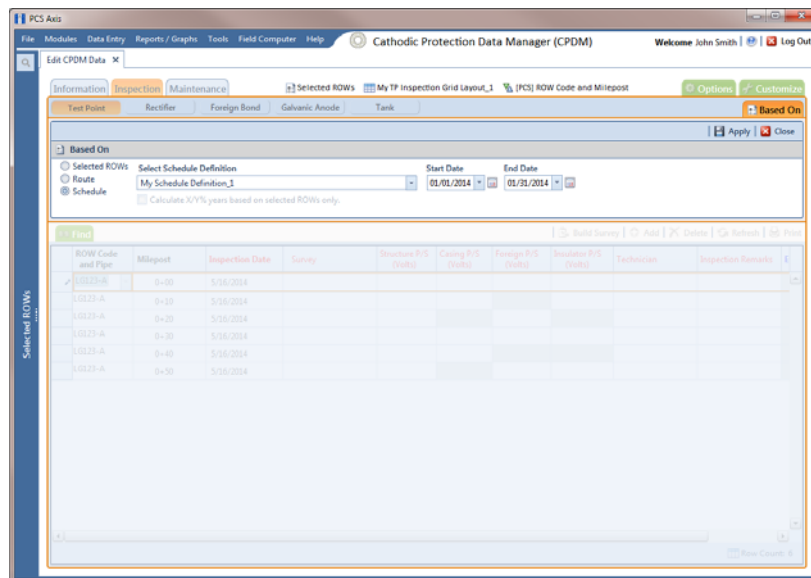

Figure 7-37. Based On Schedule
- 5 Click the **Based On** tab **Based On** and then select **Schedule** (Figure 7-37, page 249).